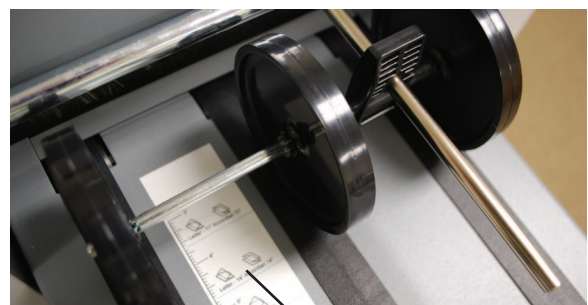

Fig. 7b
- 5b. Set the conveyor out feed wheels. Align the center of the out-feed stacker wheels with the appropriate fold/form setting on the “Fold/form size decal” (Fig 7b).